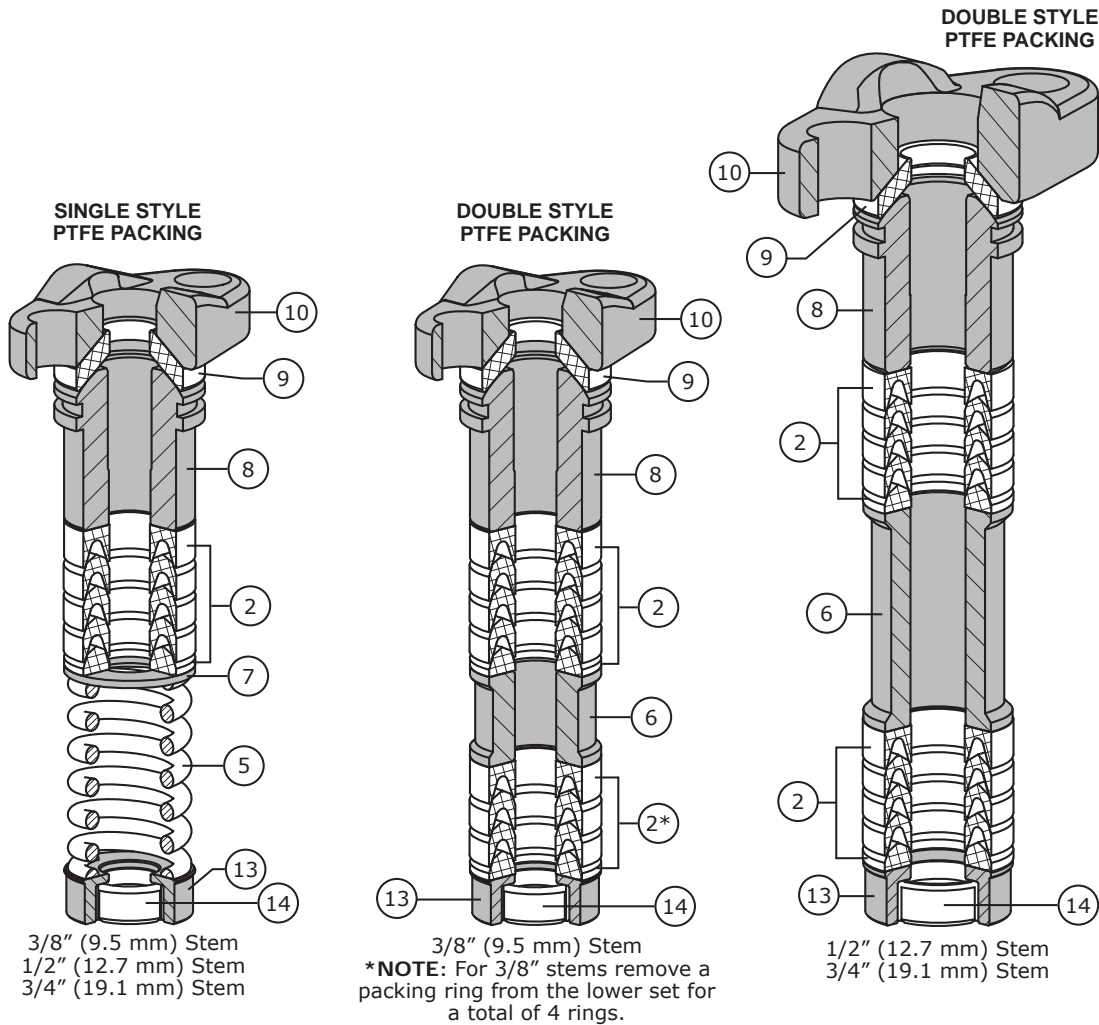

Figure 8 Model 363 Control Valve PTFE Packing Diagrams
Refer to Figure 8 & 9 for packing orientation and Key numbers for the following section.
- A Refer to Figures 8 & 9 for single and double packing arrangements. Choose proper arrangement based on stem size and single or double configurations. Install bonnet as described in the Assembly section. Install packing box ring and packing arrangement as shown. Note that Key 4 is graphite filament wound material that typically looks like rope. Key 3 is graphite ribbon compressed into rings and not split as the graphite filament ring is. Install packing follower (Key 10) and flange (Key 12) and torque as per Table 2.
- B Install other packing parts according to the packing styles as seen in Figure 8 & 9. Be sure to lubricate the packing set (Key 2) with silicone based lubricant if set is present in assembly. Refer to **NOTE** on preventing trapped air between packing.
- C Place the live loaded packing follower (Key 10) on top of the packing followed. Install the spring washers (Key 8) onto the packing follower (Key 10) orientated as shown in Figure 8. Slide the packing o-ring (Key 9) onto the packing follower so that it rests on the top spring washer.